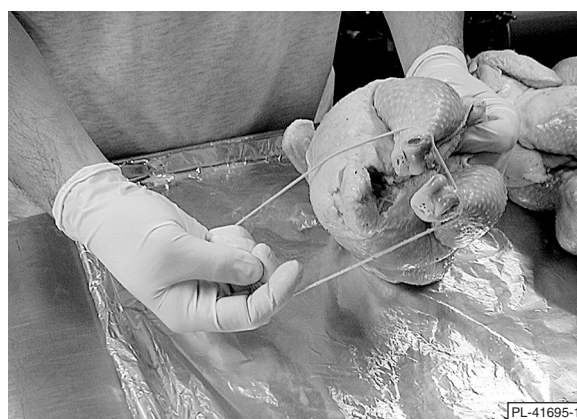

Fig. 17
- Wrap the end of approved tie around the legs of chicken. Pull up and crisscross over back (Fig. 17).